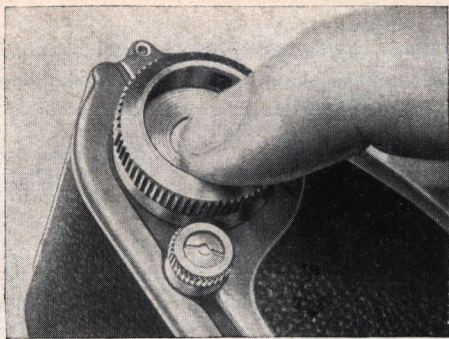

Fig. 38
Film rewinding is done as follows: Hold the camera with your left hand and press down the stud (7) during the whole rewinding process (Fig. 39). With your right index finger press in the central part (38) of the film rewinding knob (37) as far as it will go (Fig. 38). Now the fork of the film rewinding knob catches the bar of the film spool and by uniformly turning the rewinding knob (37), the film is rewound into the original cartridge. You can observe that the film rewinds all right, when you see the control disc (19) (Fig. 36 page 27) and the axle of the film transport lever (6) turning (Fig. 40). While rewinding, the axle of the take-up spool turns in opposite direction of the lever (6). Once the film is rewound, the rewinding axle stops rotating. As soon as the stud (7) has sprung back into its original position, the film can be advanc-